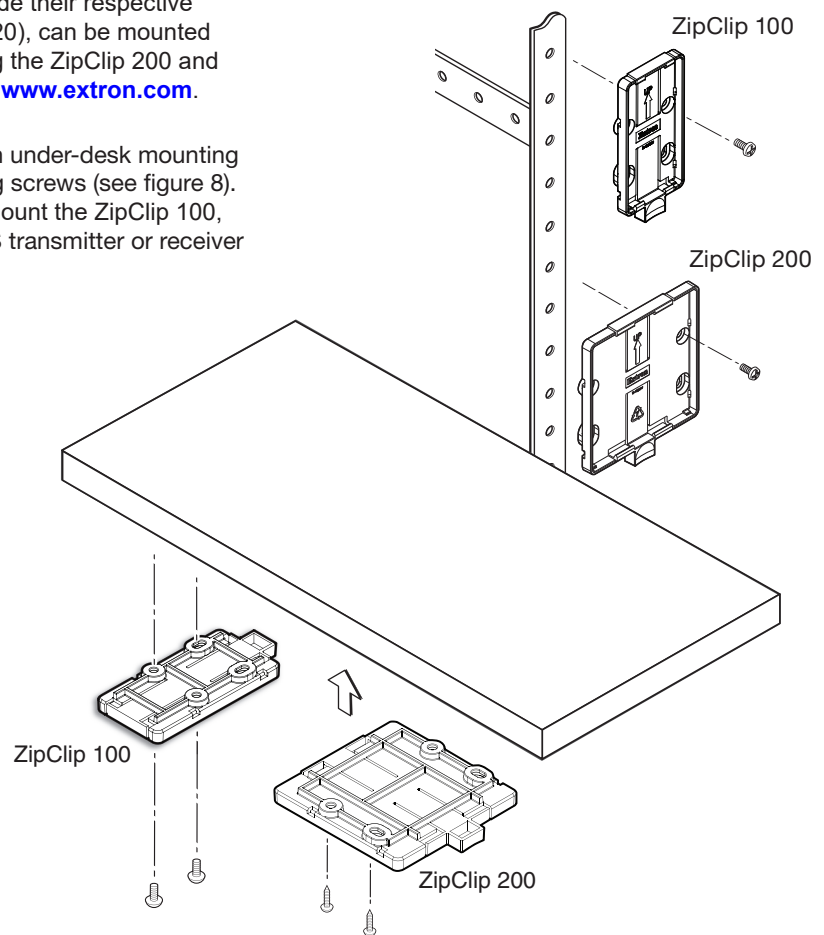

Figure 8. Rack Rail and Under-desk Mounting (ZipClip 100 and 200)
1. Mount the ZipClip 200 onto a rack rail or an under-desk mounting surface or using the four included mounting screws (see figure 8). For the receiver power supply (PS 1220), mount the ZipClip 100, adjacent to the ZipClip 200. Mount the UCS transmitter or receiver to the ZipCaddy 200.